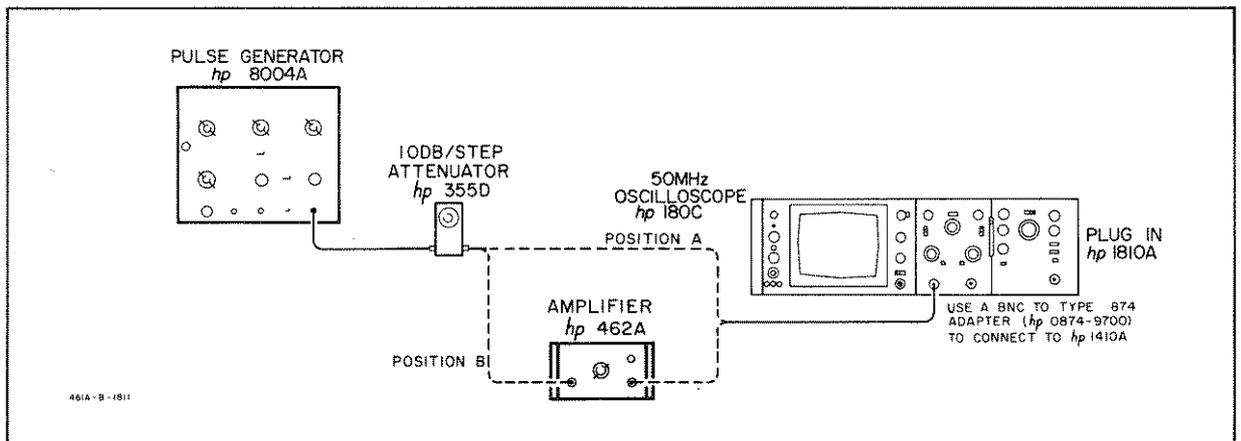

Figure 5-4. Pulse Response Check Setup
- a. Connect the 462A as shown in Figure 5-4, position A.
- k. Connect the 462A as in Figure 5-4, position B. Increase the attenuator to 60 dB and set the 462A GAIN (DB) control to 40 dB. Reverse the polarity of the input pulse to eliminate readjustment of the oscilloscope.
- j. Connect the 462A as in position B of Figure 5-4. Change the attenuator to 60 dB and set the 462A to 40 dB gain. Reverse the polarity of the pulse generator as the 462A output is of opposite polarity.
- a. Connect the Model 462A as shown in Figure 5-4, position A.